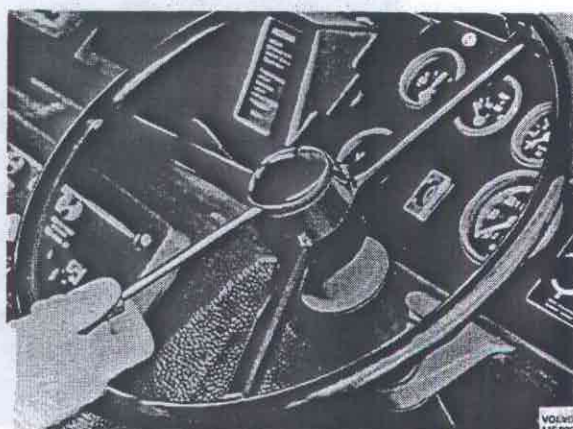

Fig. 64-8. Removing the horn button
1. Remove the horn button with a screwdriver, see Fig. 64-8. Disconnect the electric cable from the horn button.
1. Remove the horn button with a screwdriver, Fig. 64-8. Disconnect the electric cable from the horn button.